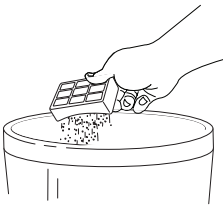

Fig. 25
- 3 Turn the filter over so that the dirty side is on the bottom and vigorously tap it clean against a garbage can to remove any dust. **(Fig. 25)**